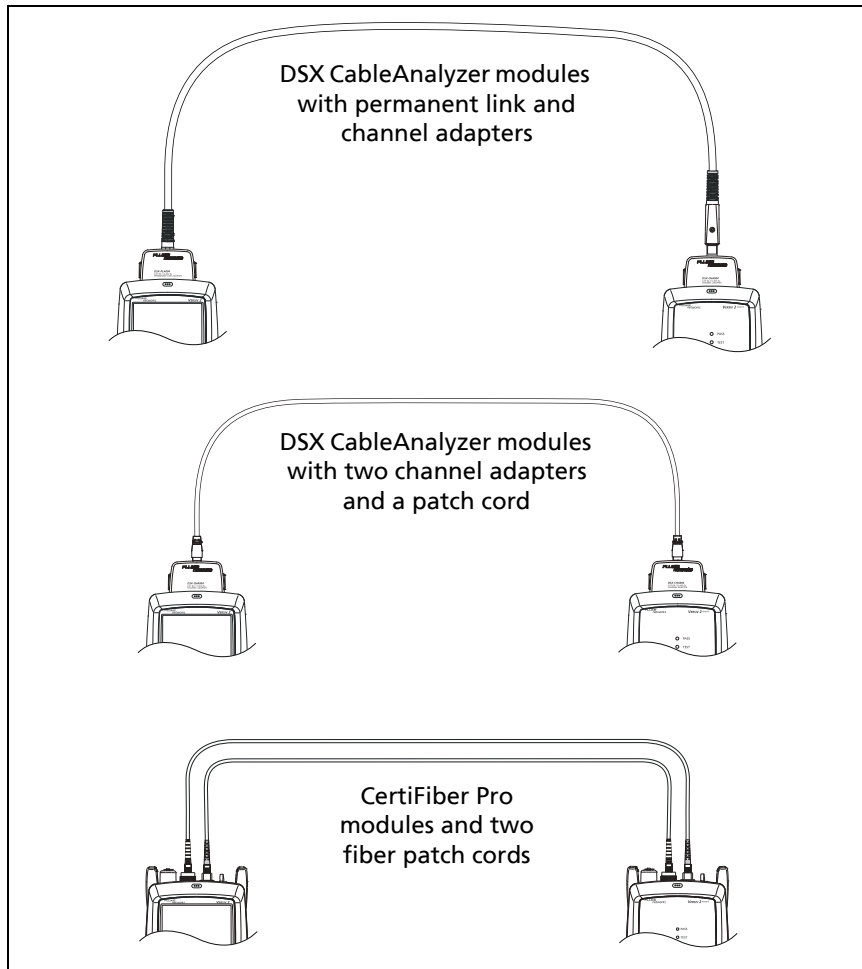

Figure 2. Connections to See the Status of a Remote's Battery GPU148.EPS
- 1 Make the connections shown in Figure 2 and turn on both testers.